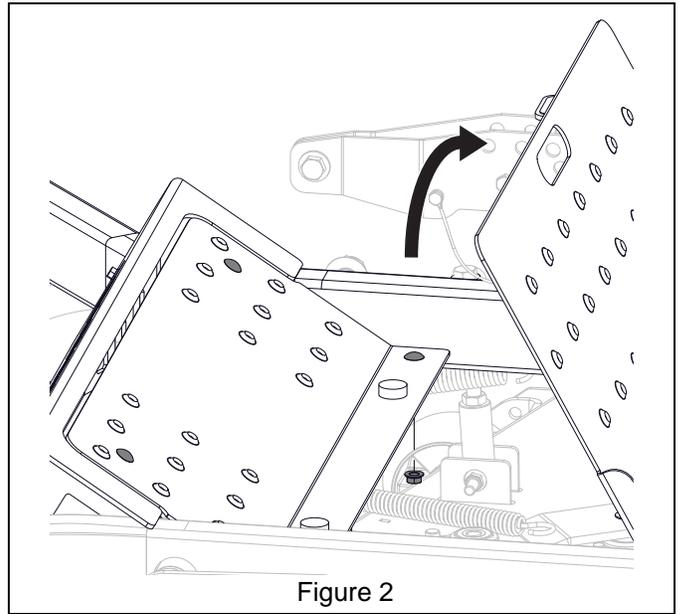

Figure 2
1. Open footrest panel. Remove and retain four 5/16" nuts securing foot plate. Remove front two nuts using a socket and extension through slots located on underside. Remove foot plate. See Figure 2.